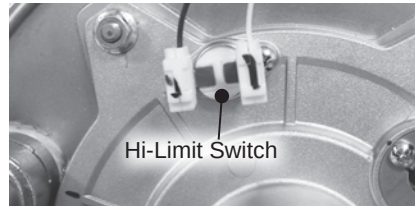

Figure 113 - Burner door hi-limit location
- 15** Locate the burner door hi-limit on the burner assembly as shown in Figure 113. Disconnect the two (2) wire leads from the hi-limit assembly and route them inside the water heater cabinet for ease of access to burner door.